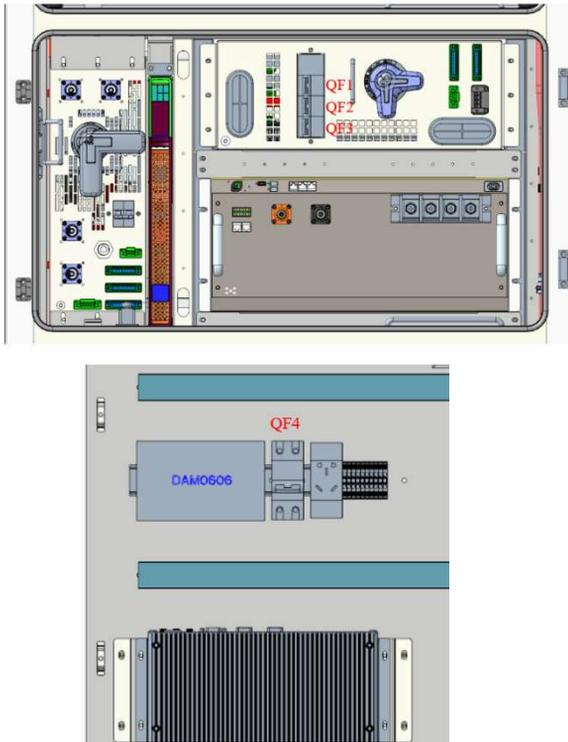

Figure 6-1 QF1\QF2\QF3\QF4
6. Manually disconnect the miniature circuit breakers QF1\QF2\QF3\QF4, as shown in Figure 6-1.